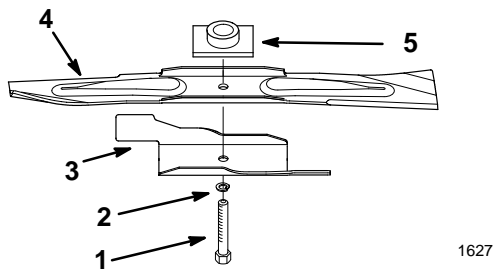

Figure 24
2. Remove the blade bolt, lockwasher, blade accelerator and blade (Fig. 24).
1. Position the blade onto the spindle and blade driver, with the curved blade tips pointing toward the mower and the blade driver nesting in the recess of the blade (Fig. 24).
2. Install the accelerator, lock washer, and blade bolt (Fig. 24).